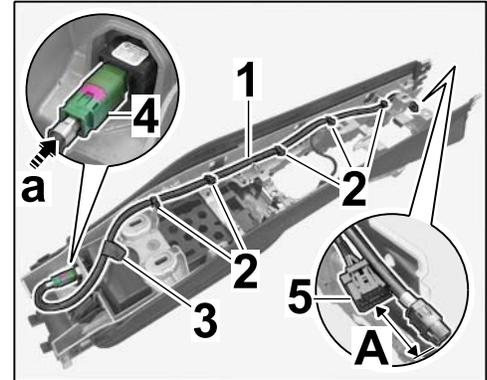

Figure 12
- 4.4 Connect electric plug connection ⇒ *Figure 12-4-* (⇒ *Figure 12-a-*).
It must project ⇒ *Figure 12-A-* by approx. 40 mm on the standard connector ⇒ *Figure 12-5-*.